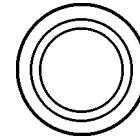

Figure 52. Main Circuit Breaker ON Switch
14. Press the **main** circuit breaker "ON" switch (Figure 52).